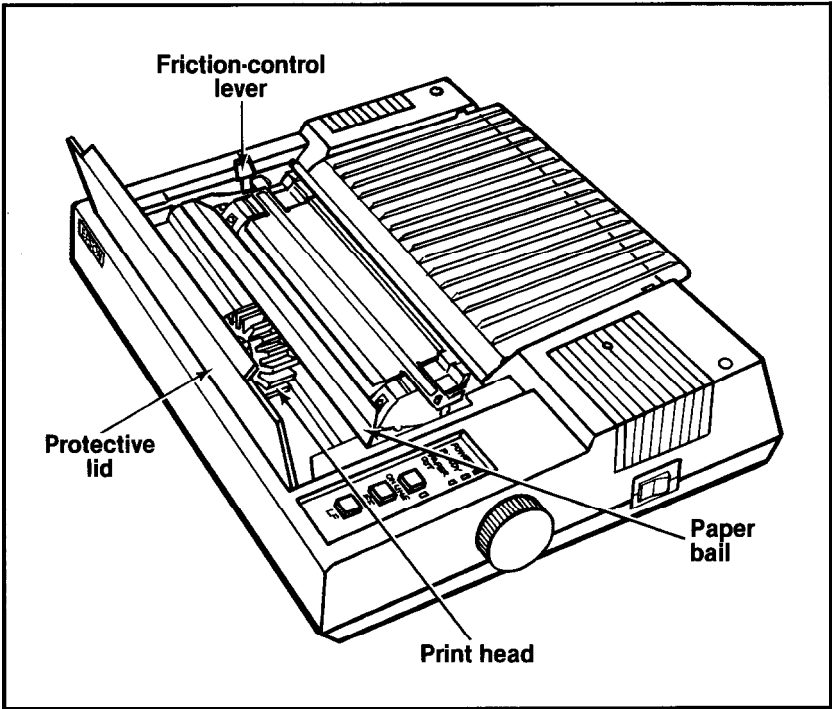

Figure 1-12. Printer readied for paper insertion
- Pull the paper bail and the friction-control lever toward the front of the printer. Your printer should now look like Figure 1-12.
- Be sure the printer is turned off, Lift the front protective lid and move the print head to the middle of the platen (refer back to Figure 1-12). Pull the paper bail up.
- Pull the paper bail and the friction-control lever toward the front of the printer (refer back to Figure 1-12).